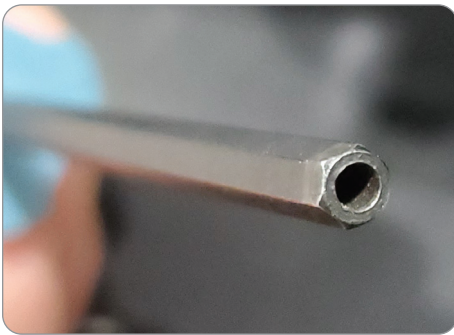

Figure 31
1. Using a 5/32" Hex head tamper-proof screwdriver, release the security screw holding the adapter panel shut (**Figures 31 and 32**).